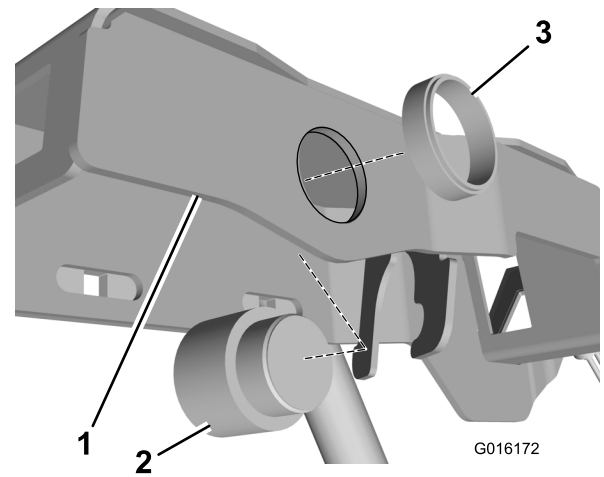

Figure 1
6. Install the audio alarm into the console arm frame (Figure 1).